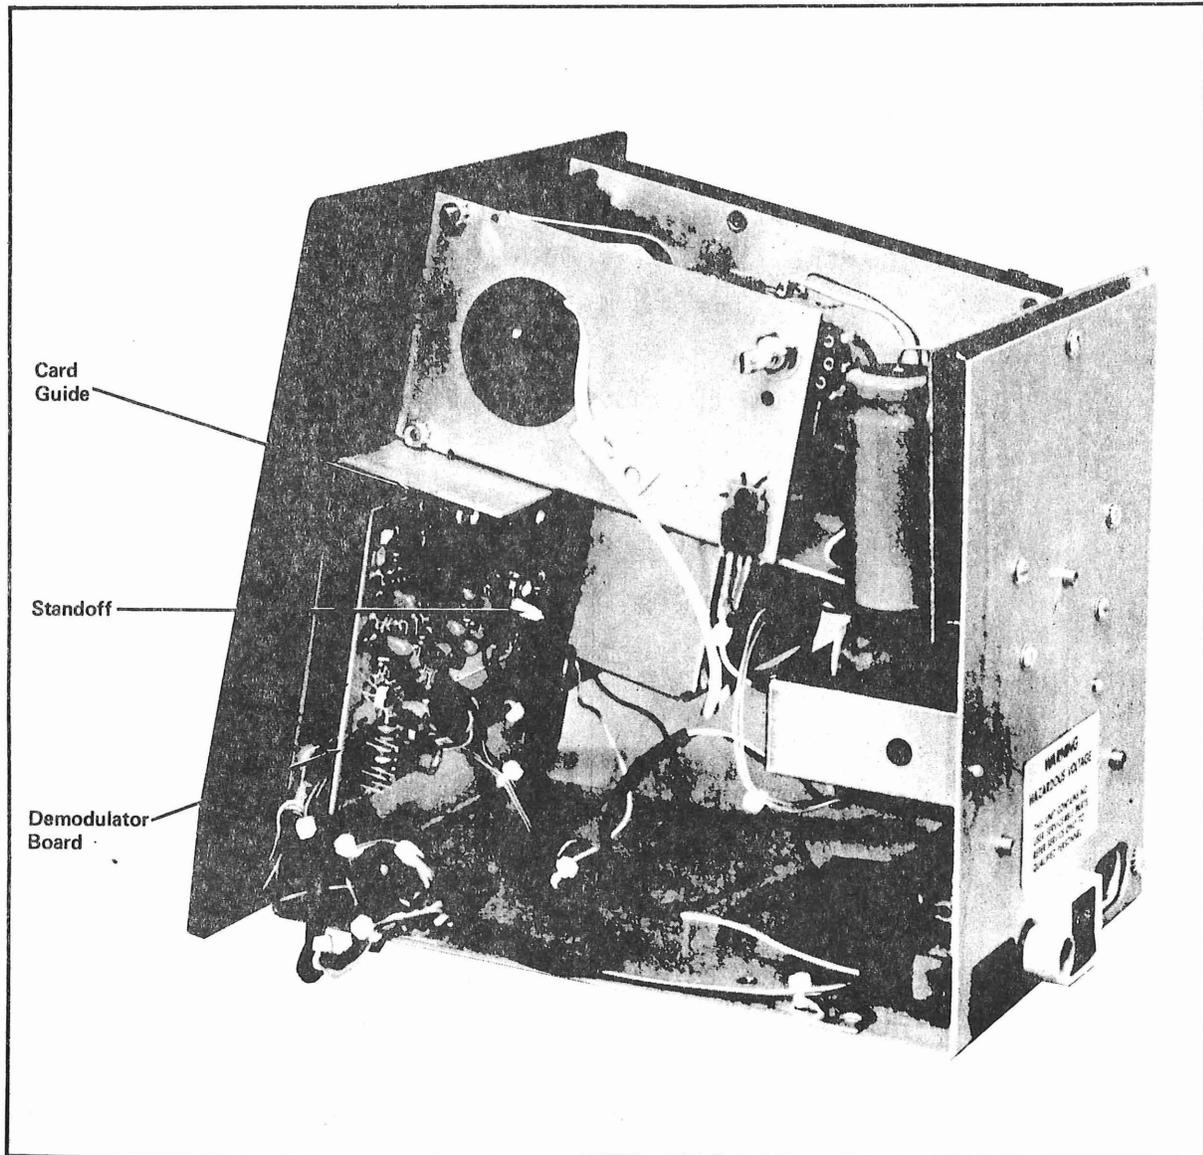

Figure 4-8. Chassis with Data Converter Board Removed
- (f) Remove the demodulator board by pressing in the keeper on the standoff (figure 4-8). The demodulator board may now be pulled loose from the standoff by swinging the bottom of the board rearward, away from the front panel. Pull downward gently to release the upper edge from its guide.
- (b) Place the upper (straight) edge of the demodulator board in the chassis and guide with the components facing rearward, and traces facing the front panel; push upward to seat in guide. (See figure 4-8.)
- (c) Press the demodulator board onto the snap-on standoff. (See figure 4-8.)